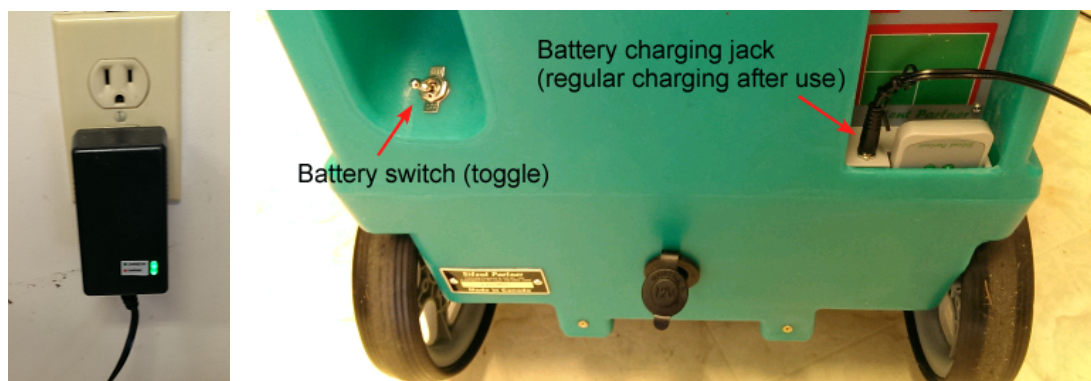

Fig. 9 Smart AC adapter and Battery charging jack (Battery switch “ON” to charge)
- e. **CHARGE THE MACHINE AFTER EVERY USE** by connecting to the wall outlet using the Smart AC adapter and Battery Charger Jack (Fig. 9). Make sure the battery switch is "ON" (otherwise it won't charge). Make sure the charger's LED is red (this means charging).